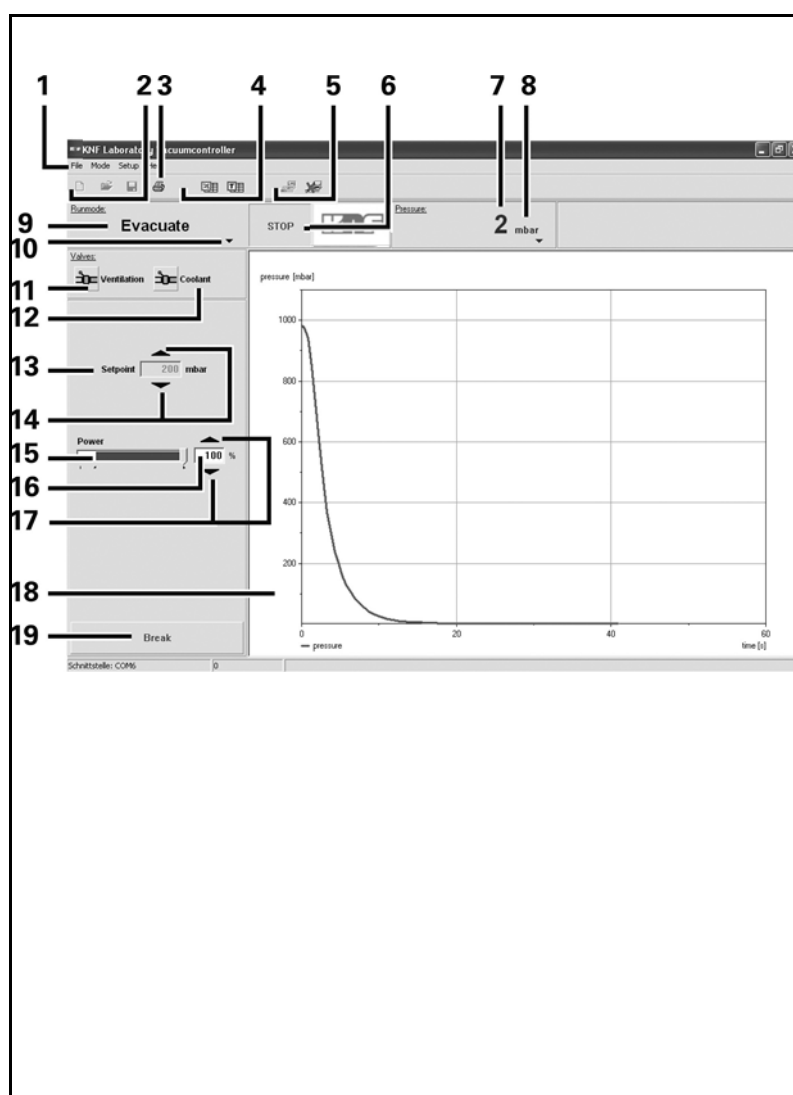

Fig. 1 : Example of software interface showing Evacuate operating mode
Fig. 1 shows an example of the software interface.
Pressure unit menu (Fig. 1/8, page 1)
- Chart: Operating mode menu (Fig. 1/10, page 1)
→ Press *START/STOP* button (Fig. 1/6, page 1)
→ Press *ventilation valve* button (Fig. 1/11, page 1).
→ Press *coolant valve* button (Fig. 1/12, page 1)
→ Adjust the pump capacity with the slider (Fig. 1/15, page 1), button (17) or by keyboard entry in the display field (16).
→ Adjust setpoint pressure with the *Increase/reduce setpoint pressure* button (Fig. 1/14, page 1) or by keyboard entry in the display field (13).